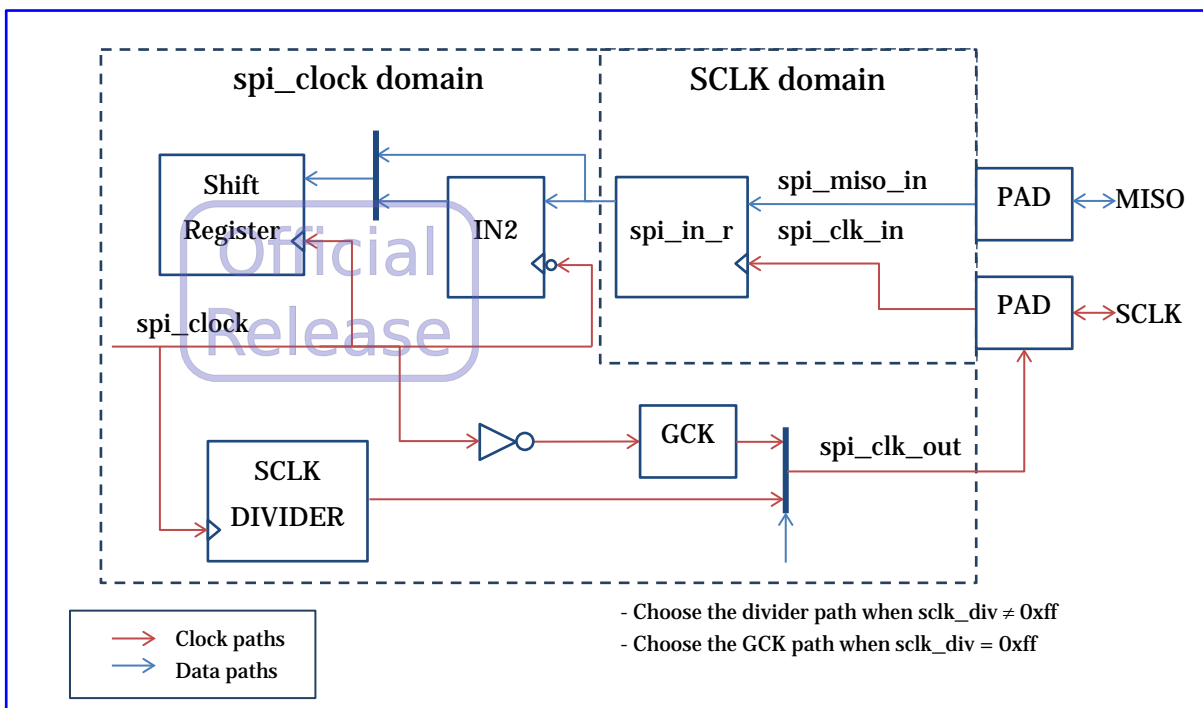

Figure 11. Relation Between SCLK Domain and spi_clock Domain
- As shown in Figure 11, the spi_in_r to shift register path should be set as two-cycle path;